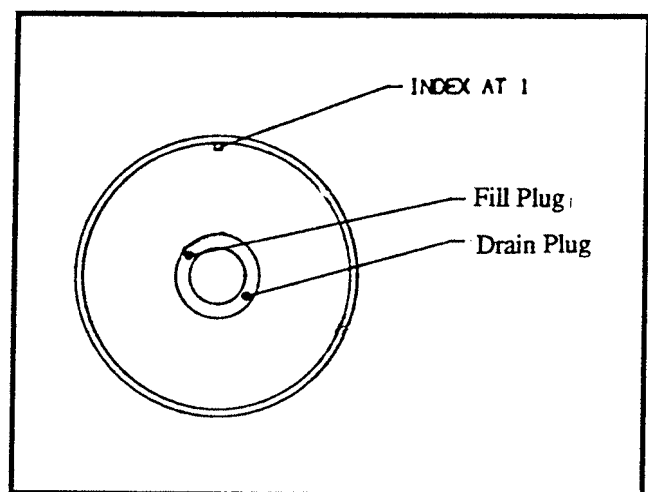

Figure 13-7. Carrier Oil Plugs
3. To change the oil, remove the fill and drain plugs. Allow the oil to drain. Be careful, hot oil and components can burn. Refer to Figure 13-7.